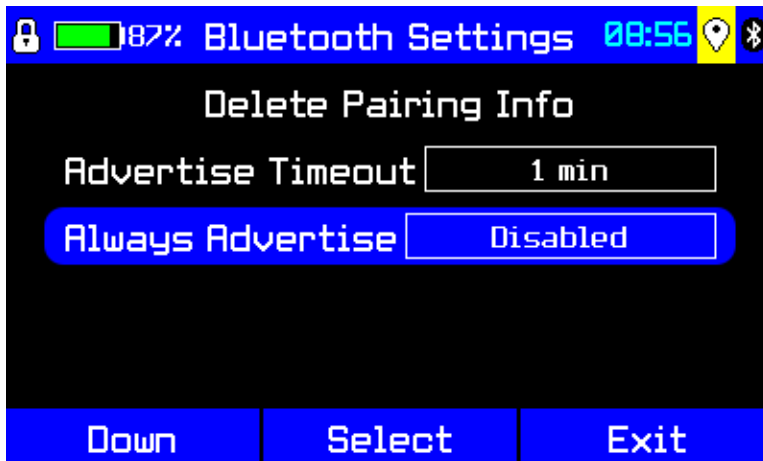

Figure 2-14: Selecting a value to change
1. Press **L (Down)** until the function you want is highlighted (Figure 2-14).
2. Press **R (Exit)** to go back to the screen you were in when you began editing (see Figure 2-14), with the original value restored.